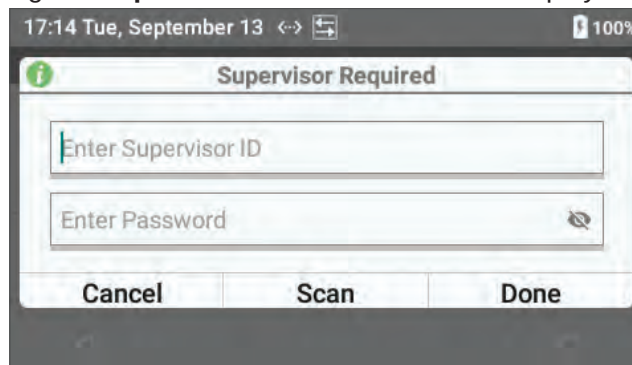

Figure 20: Enter Factory Default Setting Supervisor Password
- 2 A dialog box for entering the **Supervisor ID** and **Password** is displayed (*Figure 20*).